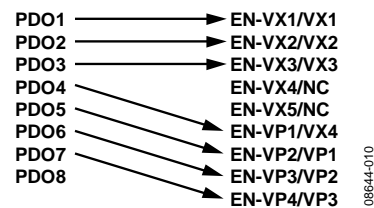

Figure 6. Demo Patch Connection 2
4. Use the point-to-point patch cables to connect the PDOx pins to the enable pins of the LDOs as shown in Figure 6.